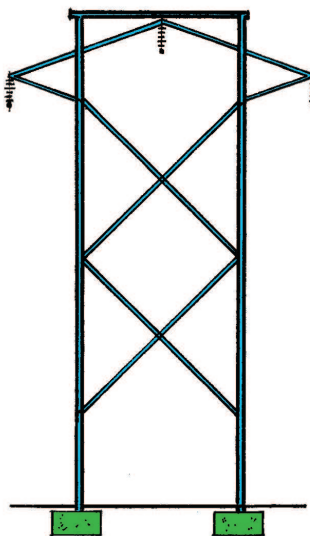
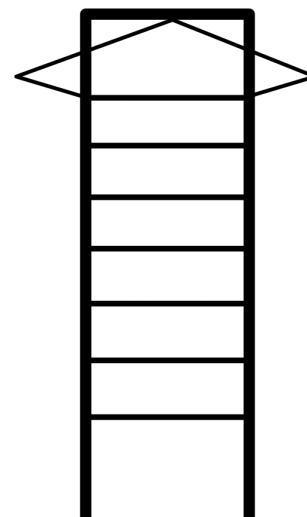

Figure 24
Figure 25
2. Why do you think the pylon in Figure 24 is designed the way it is, and not in the way shown in Figure 25?